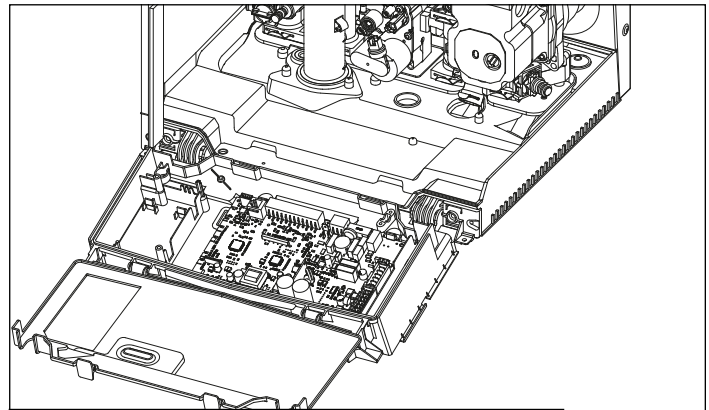

Figure 65 - 120V Connections for DHW and CH Circulators
6. Open the control panel cover to have access to the main PCB. See Figure 65.